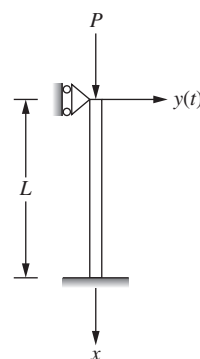

Figure P8.34 A pinned-fixed column under a compressive load.
- 8-34.** Consider the buckling of a pinned-fixed column under a compressive load P as shown in Fig. P8.34. The deflection $y(x)$ of the buckled configuration is given by